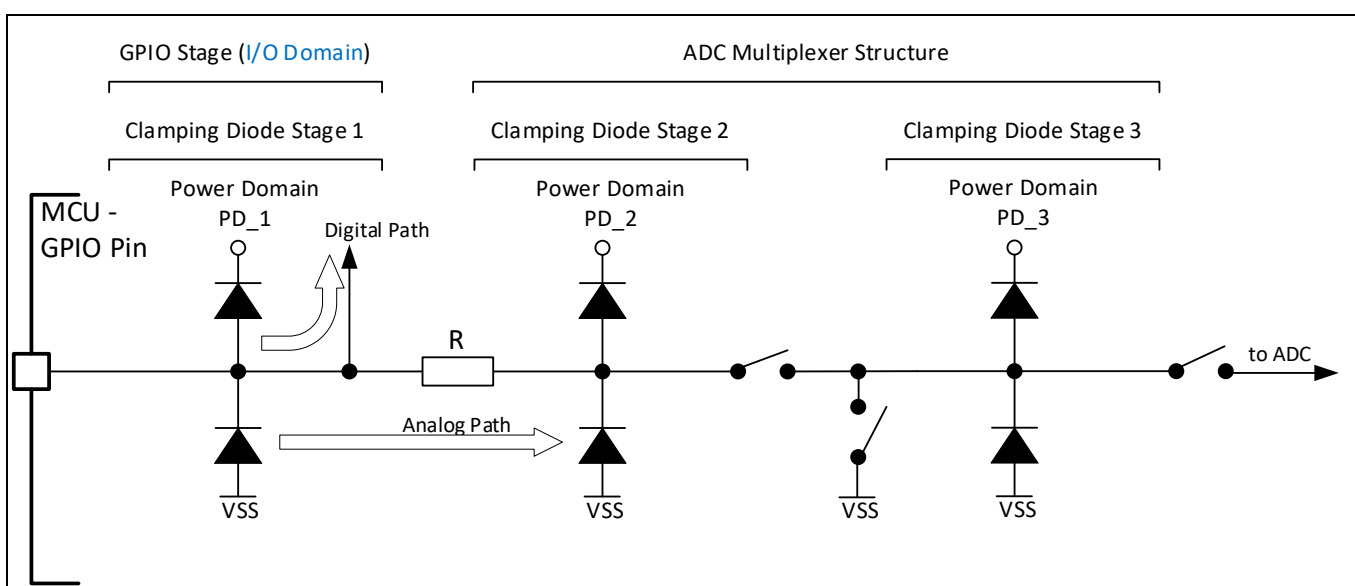

Figure 16 Clamping structure of I/O pins with shared analog functions
It is important to identify the power supply domains that must have common supply level in each application. **Figure 16** and **Table 6** provide the overview of the clamping structure and the consequences when an analog input function is used on dedicated power domains. When any port pin of a dedicated power domain (PD) is applied as an analog input, the domain must have the same or lower voltage level than the analog supply VDDA_ADC. **Table 6** lists the special use cases.